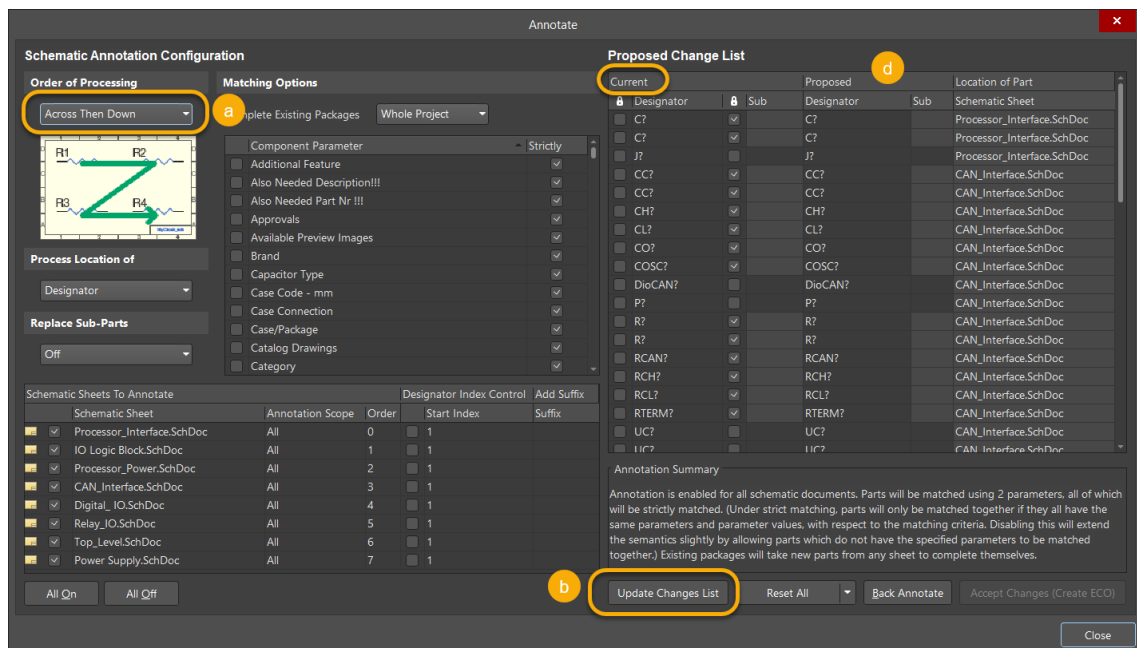

Figure 4. Annotate Dialog
19. Head to **Tools » Annotation » Annotate Schematics...** to open the *Annotate* dialog. The window shown in Figure 4 below, will appear.